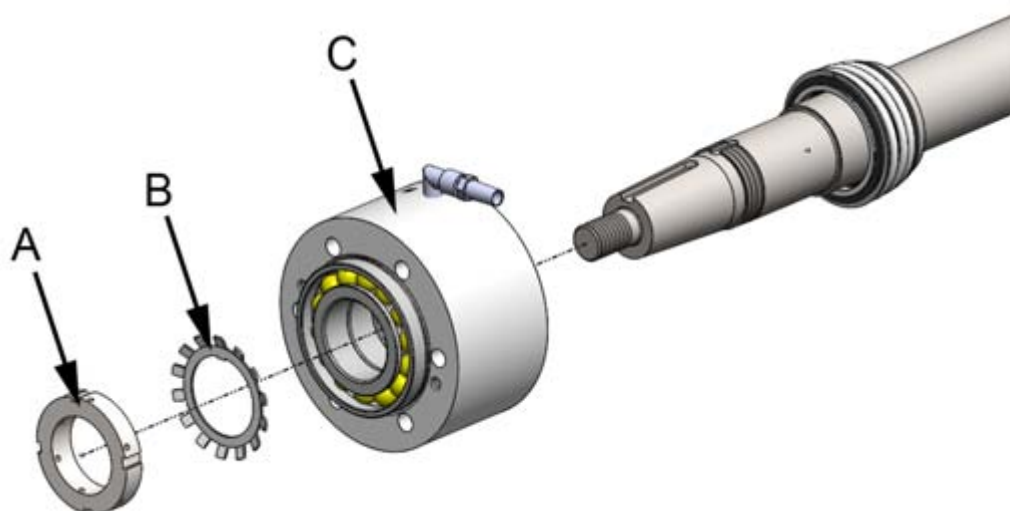

Figure 7. Removing the bearing from the shaft
10. Remove the shaft nut and lock washer (figure 7, points A and B).
11. Pull the bearing housing off the shaft (figure 7, point C).